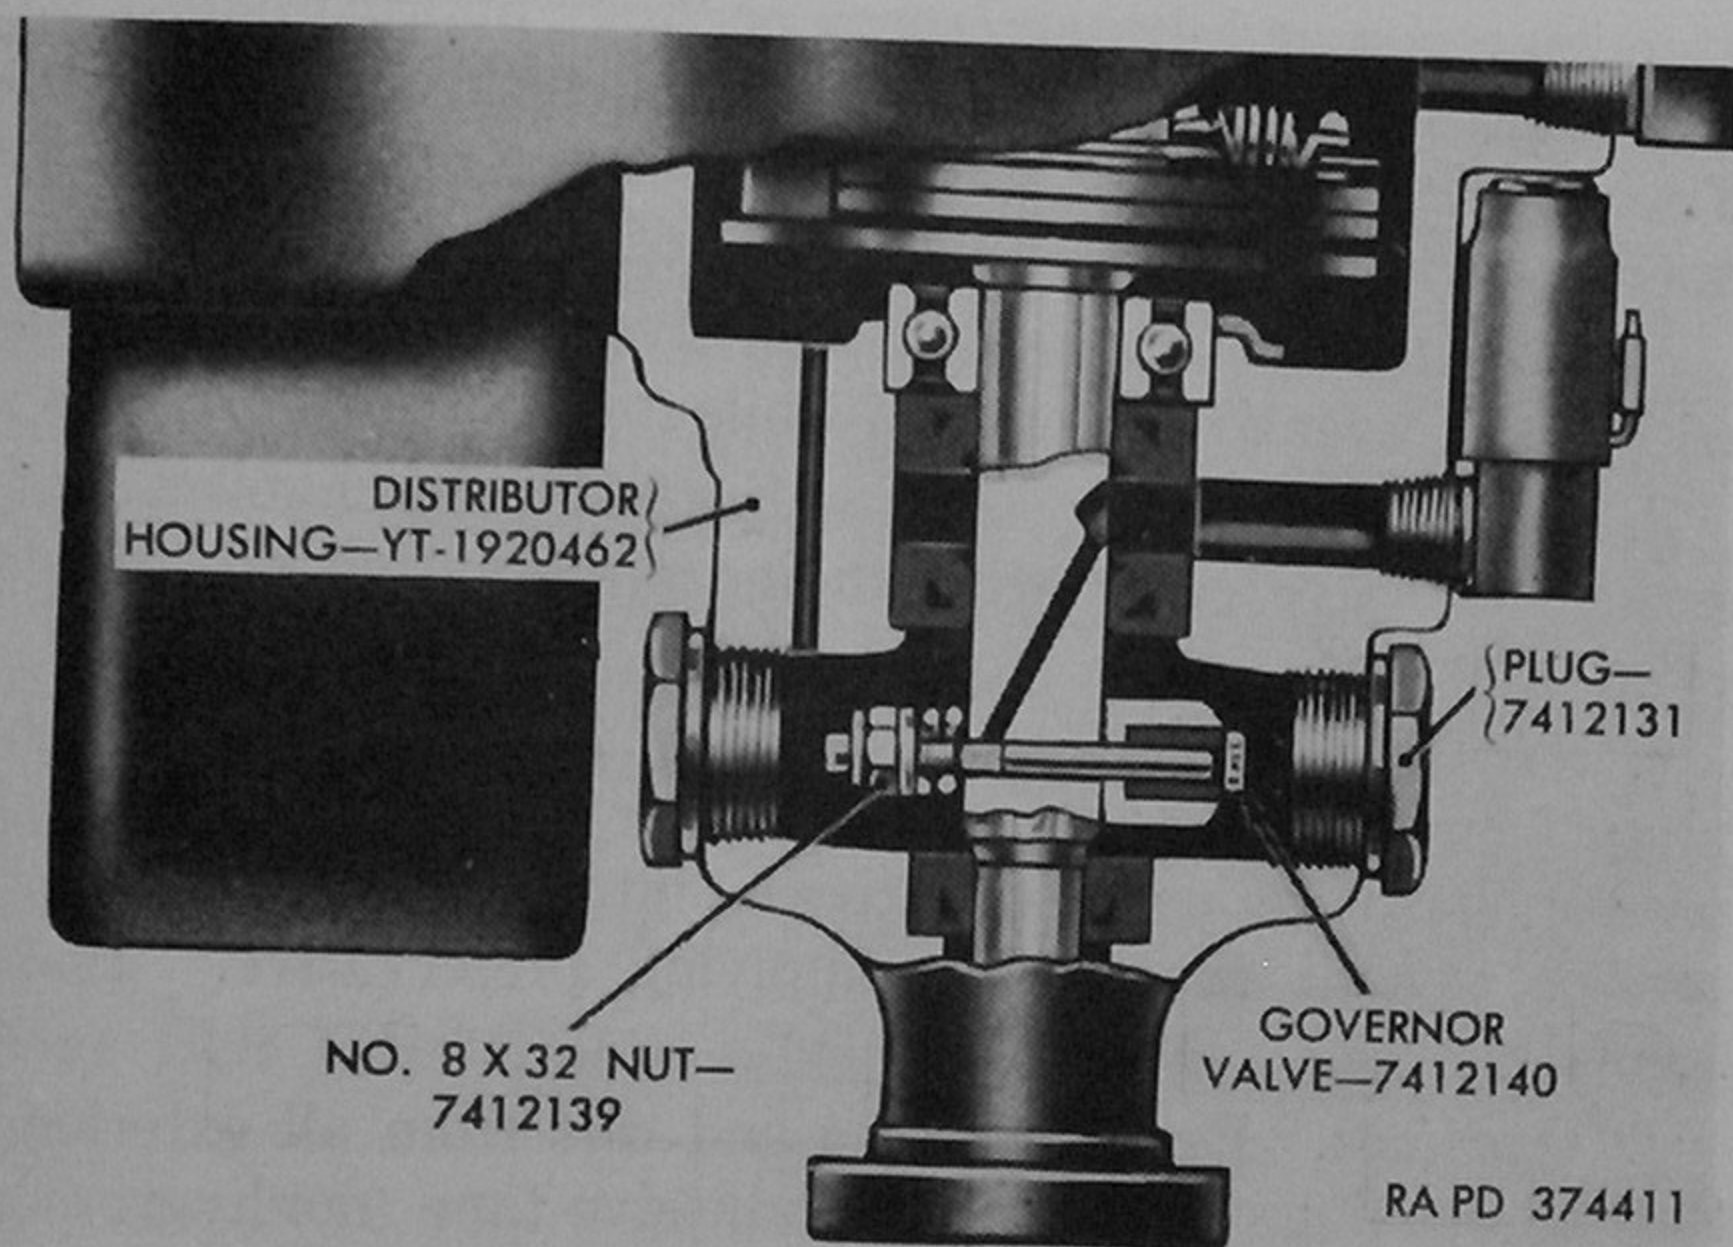

Figure 190. Governor mechanism in ignition distributor assembly.
- (1) With engine stopped, remove seals from two plugs at lower part of distributor housing; then remove the two plugs.
- (2) Crank engine over until No. 8 x 32 nut (fig. 190) retaining governor valve spring is in line with one of the plug openings.